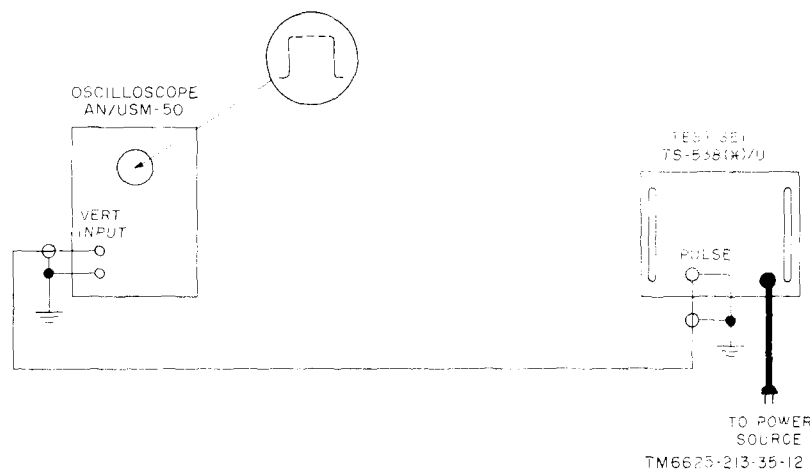

Figure 22. Test Set TS-538(\*)/U, pulse width calibration, connection diagram.
### 34. Pulse Width Calibration (fig. 22)
a. Connect the vertical amplifier of Oscilloscope AN/USM-50A to PULSE test jack J3 of the test set (fig. 22).
d. Adjust screwdriver control R9 at the inside rear of the chassis (fig. 13) until the pulse on the oscilloscope is 45 microseconds wide. The oscilloscope waveform should be similar to the waveform illustrated in figure 22.